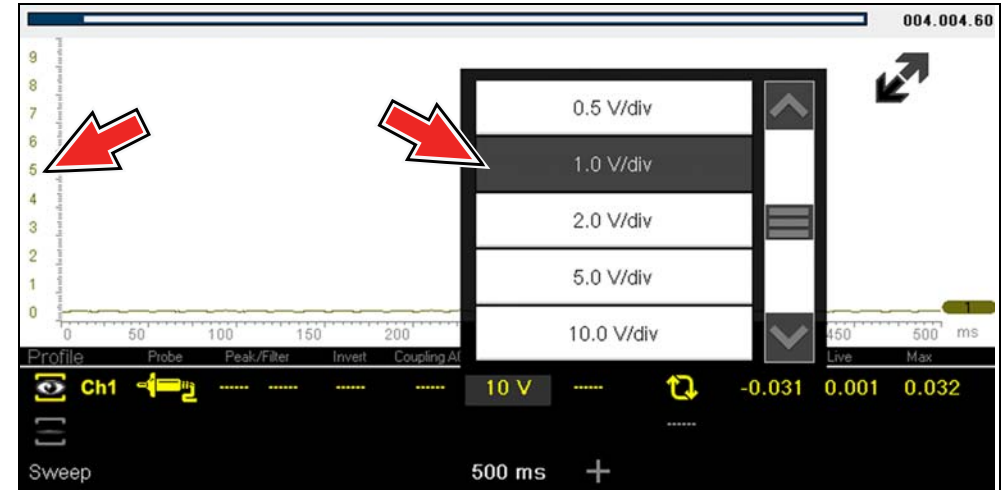

Figure 12-30
**Example (Figure 12-30):** Selecting 1.0V/div, displays a vertical scale divided by 10. The vertical scale is “always” divided by 10, therefore each division is incremented by 1.0V, thus a 10V scale.